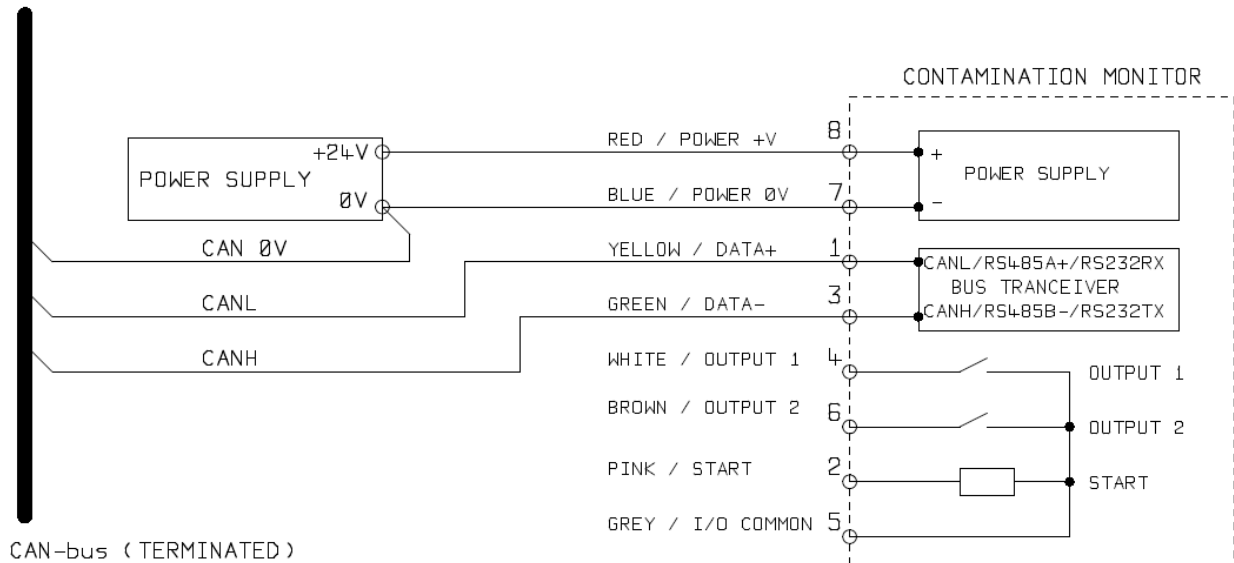

Figure 6.29
- Connect the LPM to your CAN-bus network and provide a 24VDC power supply, as per figure 6.29.